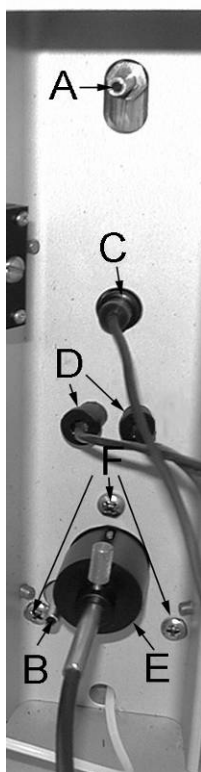

Figure-3: The connections to the Stopped-Flow drive stand. A. Water Out.
1. Plug the valve position/temperature sensor cable (7-pin connector) into the back of the Motor Control Box. This connection is marked “*Temp, Load/Fire*”. The cable is coiled, twist tied, and tucked under the rear brace of the stand. The valve position sensors and temperature probe are already connected in the back of the Stopped-Flow Stand (*Figure-3*). If the incorrect position is shown on the computer readout, refer to Section C-3 of the Appendix.
Temperature control is achieved by using a circulating water bath (not included). Inlet and outlet tubing connectors are accessed from the back of the instrument (*Figure-3*). Water circulates through the stainless steel cube surrounding the observation cell, then flows through the syringe chamber and exits from the top of the syringe chamber. Connect the output of the water bath to the tubing connector entering the stainless steel block (Water In). Connect the input (return) to the water bath from the tubing connector located at the top of the syringe chamber. A solid-state temperature sensor is located in the syringe chamber, providing a continuous readout to the computer (*Figure-3*). The temperature readout can be calibrated as described in Section C-1 of the Appendix.